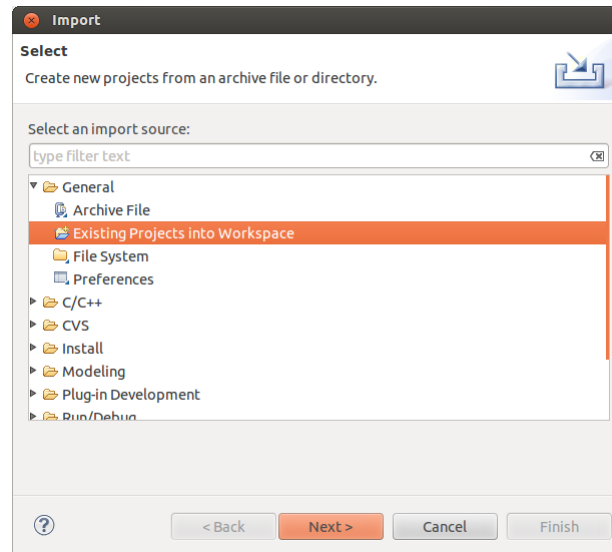

Figure 31 The Import Wizard
Step 1: On the menu bar, choose **File > Import**; the dialog shown in *Figure 31* will appear.